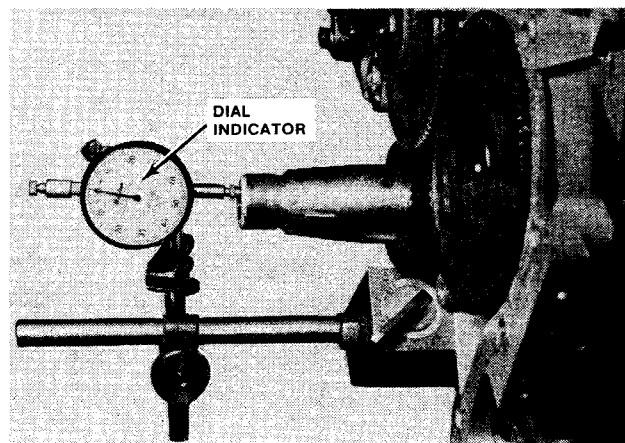

FIG. 4 Checking Crankshaft End Play—Typical
2. Install a dial indicator so that the indicator tip rests against the front face of the crankshaft and the plunger is parallel to the crankshaft centerline (Fig. 4).